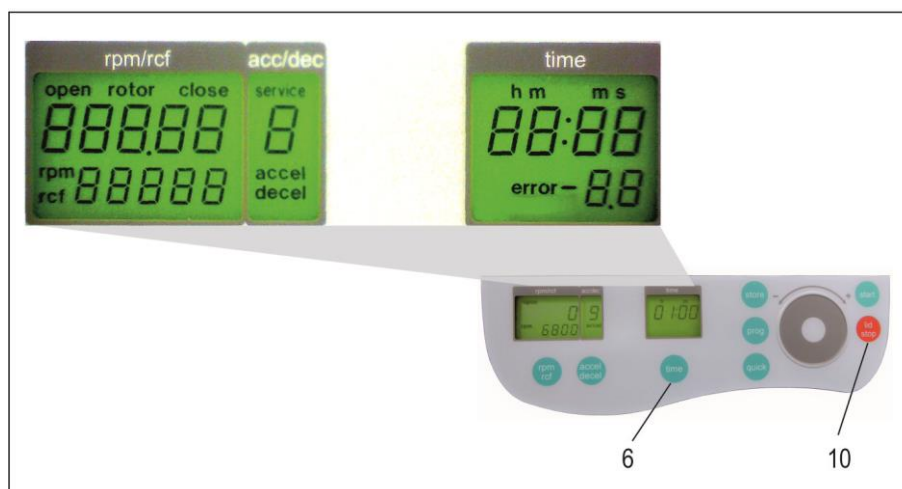

Figure 2
Open the centrifuge lid and shut off the main switch. Now switch on again the main switch. For approximately 3 seconds the software version and the model type will be shown in the display (see Figure 1). Press during this time the keys “time“ (6) and “lid/stop“ (10) simultaneously. As a result, a display test is administered for approx. 3 seconds. All possible indications will appear at the same time (see Figure 2). The LED light is flashing alternately with green and red color.